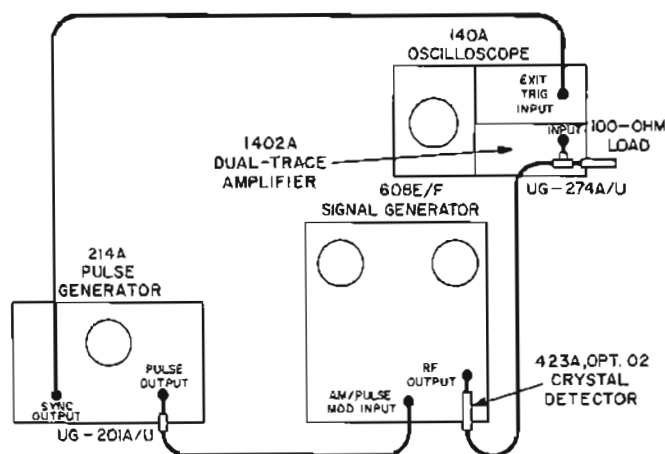

Figure 5-9. Pulse Modulation Test Setup
- a. Connect signal generator intest setup illustrated in Figure 5-9.